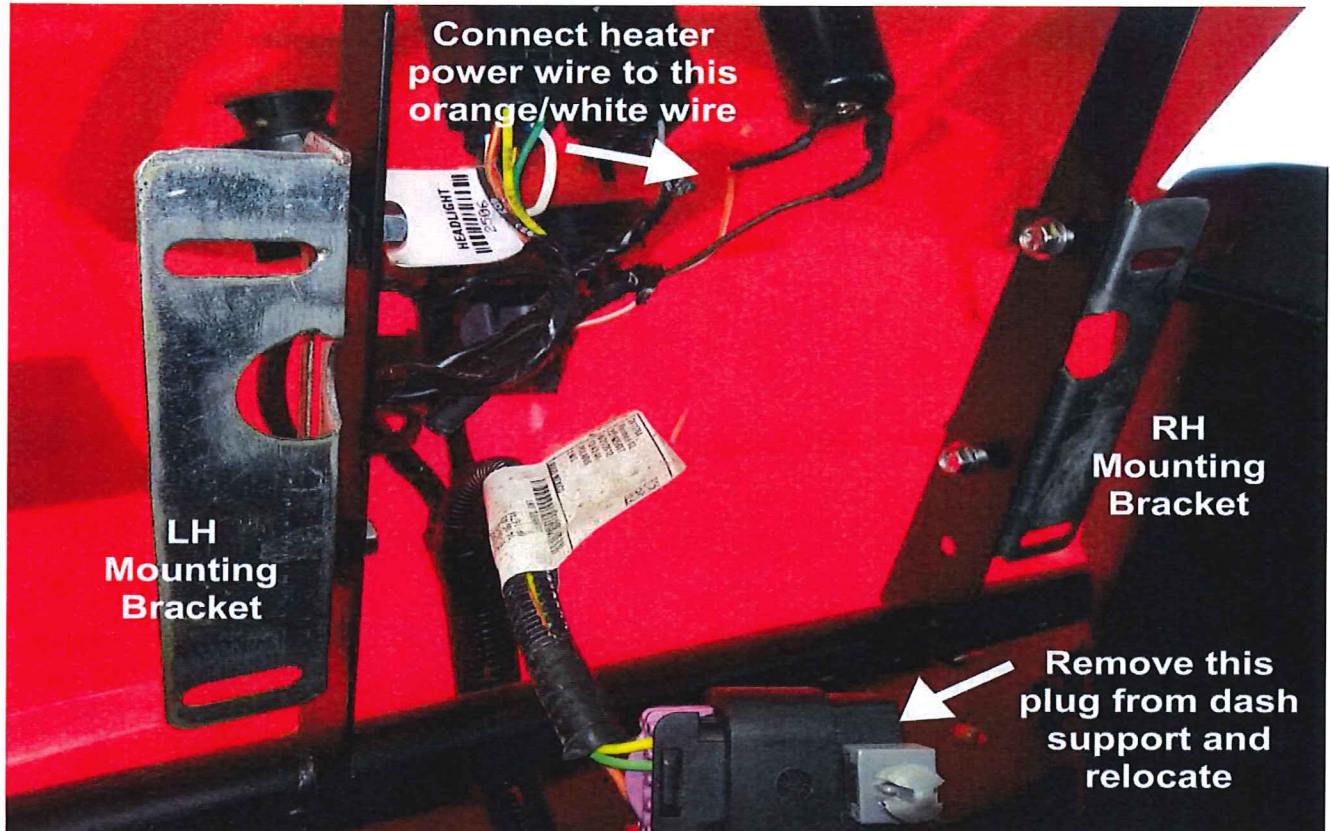

Figure 2
5. Remove the electrical plug from the dash support as shown in Figure 2 and relocate with the supplied Cable Ties.
6. Attach the Red wire of the included Wiring Loom to the loose orange and white wire shown in Figure 2. To do this, use the included Blue Quick Connect.
8. Mount the LH and RH Mounting Brackets as shown in Figure 2 using the existing holes in the RZR dash support bars to locate the brackets.